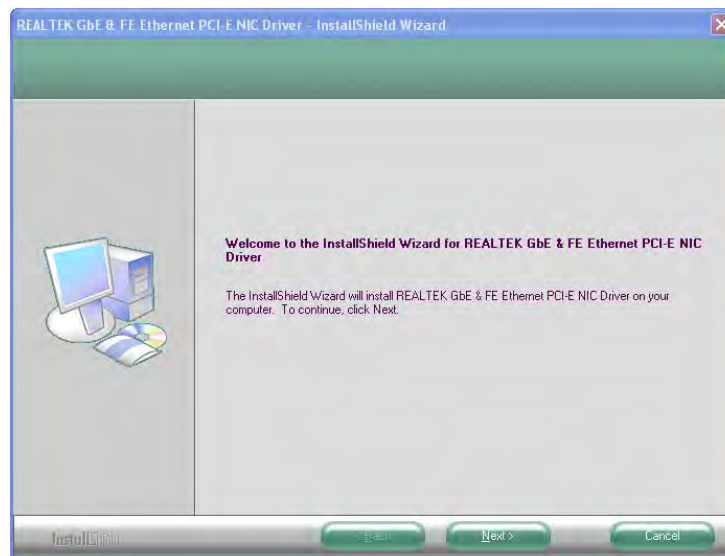

Figure 6-13: LAN Driver Welcome Screen
Step 4: The **Welcome** screen in **Figure 6-13** appears.